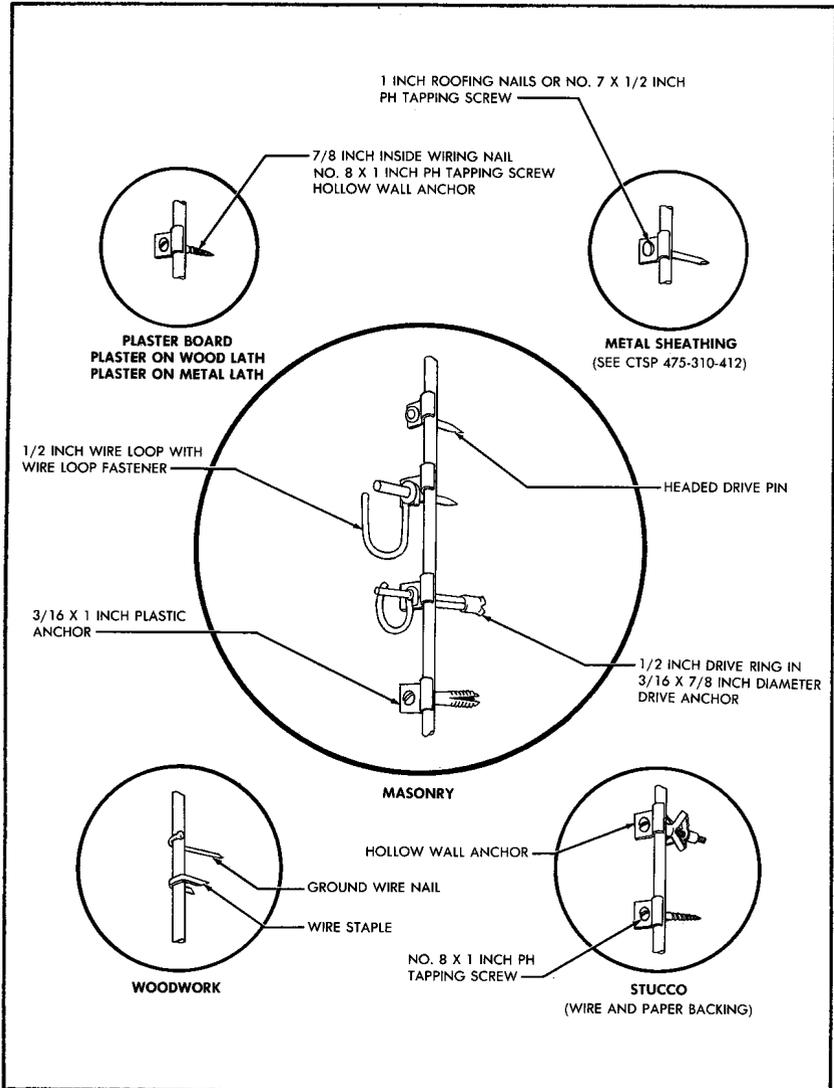

FIGURE 1. Fasteners for Ground Wire
**3.01 Fasteners (Figure 1):** Space ground wire fasteners as follows:
**5.01 Drive Rings (Figure 1):** Drive rings are formed steel loops having a pointed shaft suitable for hammer-driven attachment to wood or masonry surfaces. On wood surfaces, attach drive rings to beams or studding (to avoid injury below the 6-foot level use bridle rings). On masonry surfaces, use with drive anchors. Table G shows sizes of rings and anchors.
**5.02 Wire Loop (Figure 1):** Wire loops are formed sections of wire used with wire loop fasteners as an intermediate support for station wires and inside wiring cables attached to masonry surfaces (to avoid injury below the 6-foot level use bridle rings). Table H shows sizes of wire loops.